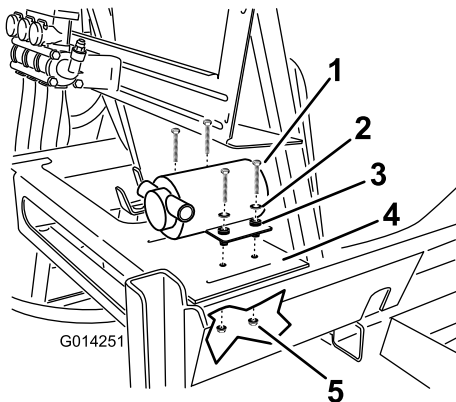

Figure 19
1. Locate the pump in loose parts and it to the tank frame on the platform at the rear, right of the main tank (Figure 19).
2. Secure the pump to the frame using four bolts, four washers and four lock nuts (Figure 19).